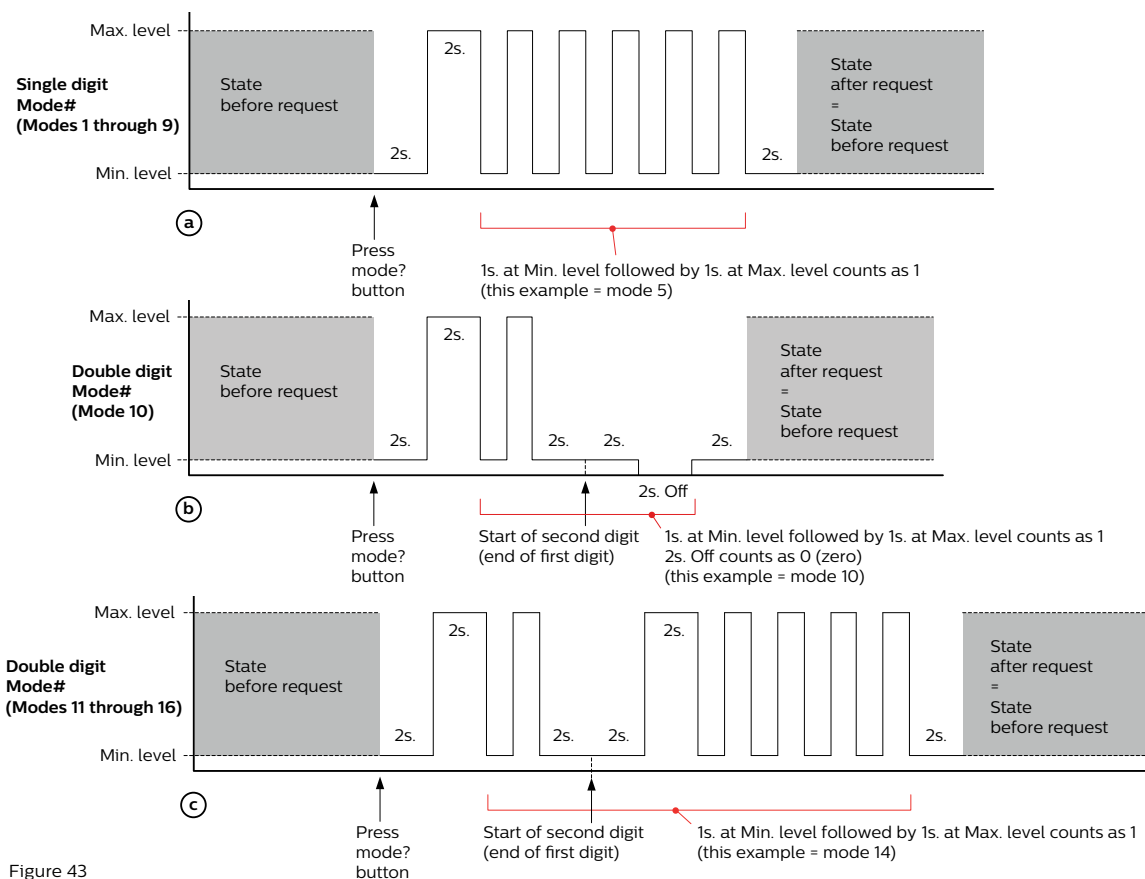

Figure 43
- 3: The number of flashes have to be counted and represents the mode number. Depending on the active mode the amount and sequence of the flashes differs (see figure 43 for examples).